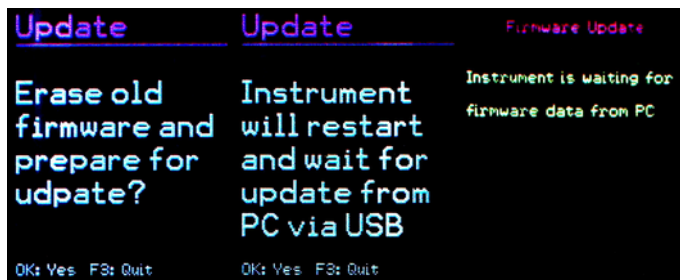

Figure 51: Firmware update
6. Within the VM25 “Instrument Settings” select the option “Update Firmware” and confirm the warning and subsequent hint messages by pressing OK. By carrying out this step the old firmware is deleted. The VM25 will then indicate that it awaits new firmware data from the USB port (Figure 51).